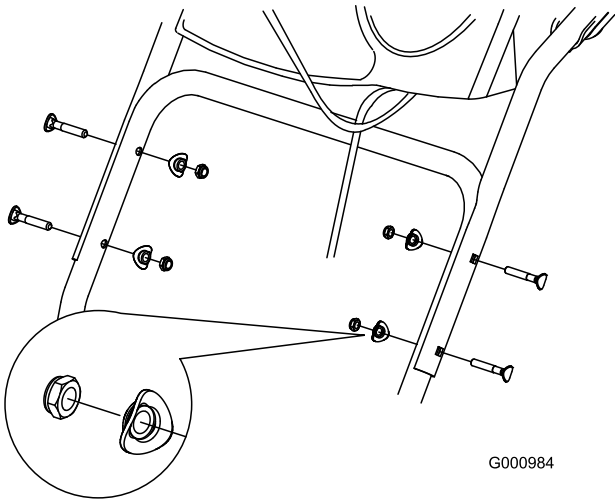

Figure 4
2. Secure the upper handle with 4 handle bolts, 4 curved washers, and 4 locknuts from the loose parts bag (Figure 4).